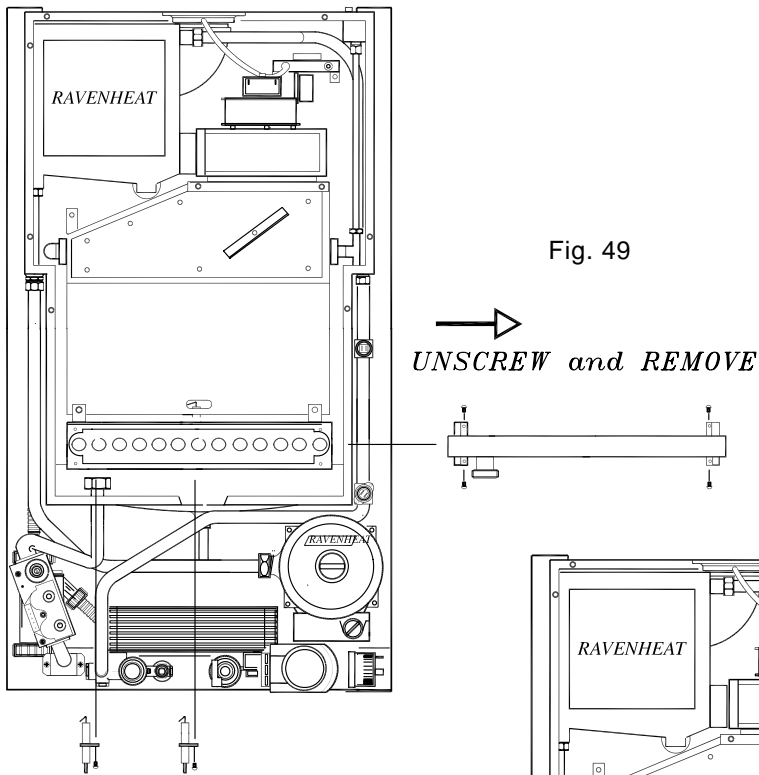

Fig. 49
**7.10 TO REPLACE THE ELECTRODE (fig.49).**
- 7.12.4 Pull the burner forward and remove (fig. 49).